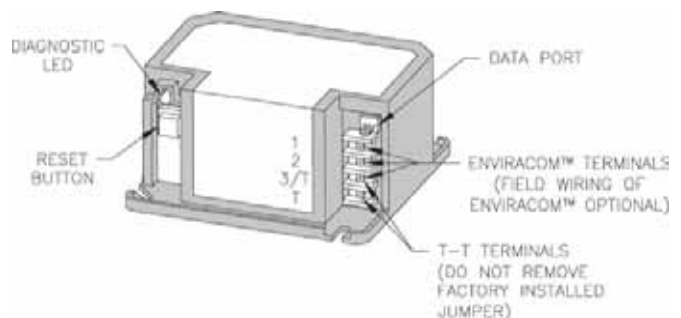

Figure 47: R7184 Terminals, LED and Reset Button
- i. The R7184 is a microprocessor-based control. The indicator light provides diagnostic information for lockout, recycling and patented cad cell status. There is a manual reset button to exit the Lockout Mode and enter the Idle Mode (see Figure 47).
- v. T-T Jumper: Select models have pre-installed T-T jumper. Do not remove jumper. (See Figure 47).